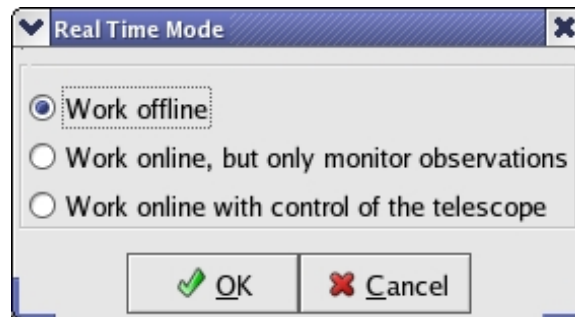

Figure 4.2: When you start Astrid you will see this “pop-up” window which will allow you to choose which mode of Astrid that you would like to use.
Astrid will now ask you what mode you would like to operate in. This will be done via a “pop-up” window which is shown in Figure 4.2.
Step 3 The pop-up window shown in Figure 4.2 appears.